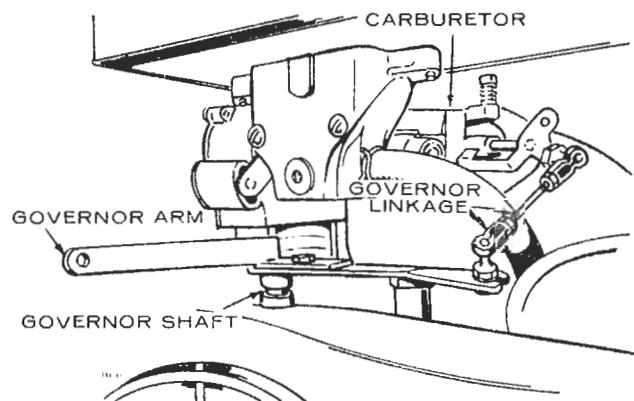
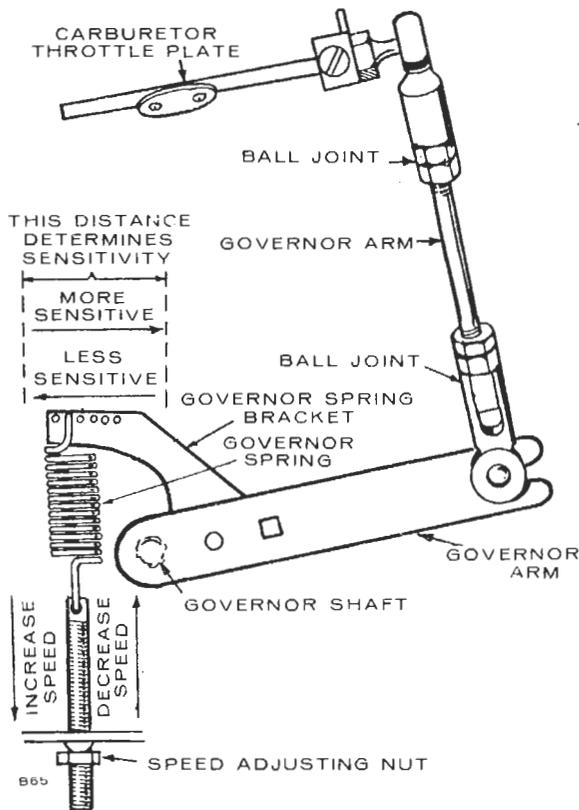

FIGURE 12. VARIABLE SPEED GOVERNOR
FIGURE 11. GOVERNOR ADJUSTMENT LINKAGE
The standard governor for the CCKB is a constant speed governor, Figure 11. A variable speed governor is shown in Figure 12. If the following checks don't remedy erratic governor operation, install a new governor spring. Check the governor arm, linkage, throttle shaft and lever for binding or excessive wear at connecting points. A binding condition at any point will cause the governor to act slowly and regulation will be poor. Excessive looseness will cause a hunting condition and regulation will be erratic. Work the arm back and forth several times by hand while the engine is shut off. Replace parts as needed.
Where engine speed is governor controlled, the governor is set at the factory to allow a nominal engine speed of 2400 rpm at no-load operation (unless another speed is specified when the engine is ordered). Proper governor adjustment is one of the most important factors in maintaining the power and speed desired from the engine, Figure 11.
Check the governor arm, linkage, throttle shaft and lever for a binding condition or excessive slack and wear at connecting points, Figure 11. A binding condition at any point will cause the governor to act slowly and regulation will be poor. Excessive looseness will cause a hunting condition and regulation will be erratic. Work the arm back and forth several times by hand while the engine is idle. Replace parts as needed.
The speed at which the engine operates is determined by the tension applied to the governor spring. Increasing spring tension increases engine speed. Decreasing spring tension decreases engine speed. The no-load speed of the engine should be slightly higher than the speed requirements of the connected load. For example, if the connected load is to turn at 2310 rpm, set the no-load speed of the engine at about 2400 rpm. Check speed with a tachometer. If a speed adjustment is needed, turn the speed adjusting nut in to increase the speed or out to decrease the speed (Figure 11).
4. Adjust sensitivity for smooth no load to full load by moving the governor spring as shown in Figure 11. Move spring toward governor shaft for more sensitivity, away for less sensitivity.